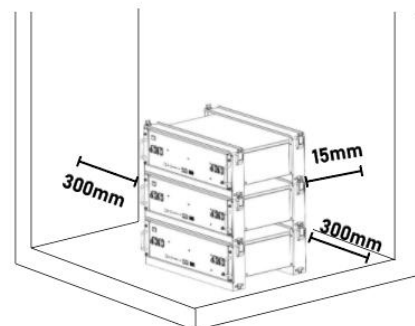

Figure3-9
5. clearances required around battery, Shown as Figure3-9.